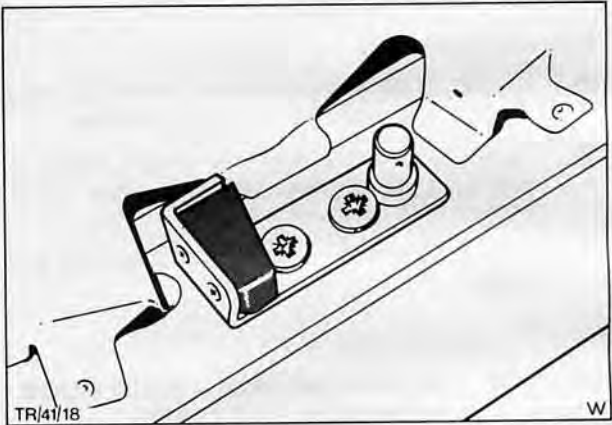

Fig. 58. Tailgate striker assembly
4. Slacken screws retaining tailgate striker to load space floor, Fig. 58.